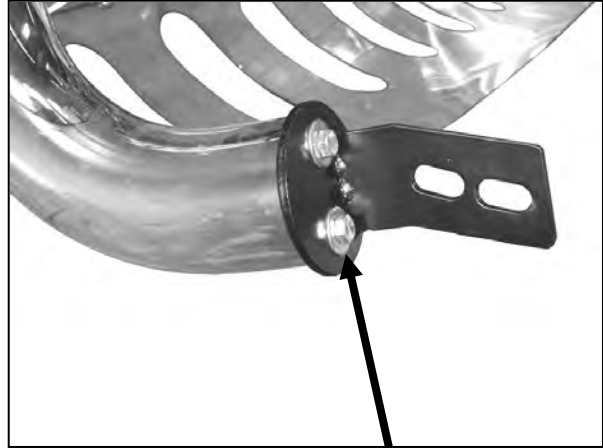

Figure 2
6. Loosely attach Bull Bar Brackets to Bull Bar using the included (4) 8mm x 25mm Hex Head Bolts, (4) 8mm Lock Washers, and (4) 8mm Flat Washers (**Figure 2**). Do not tighten at this time.